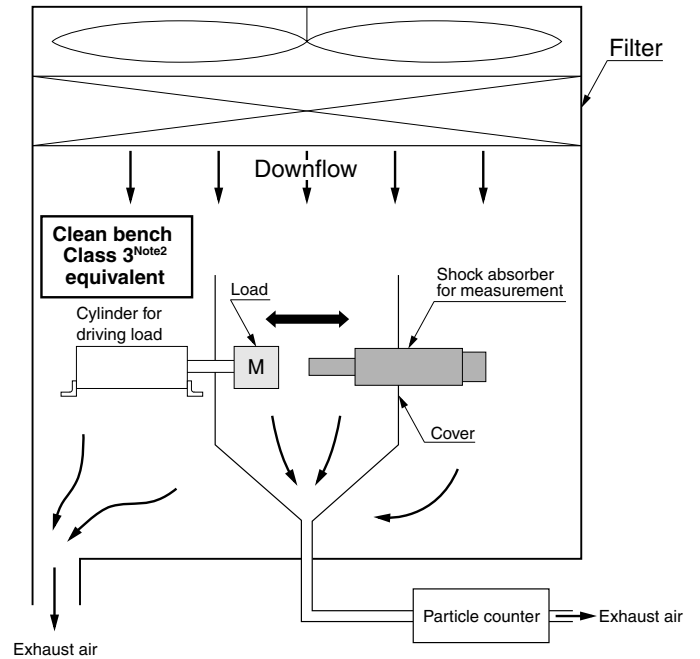

Figure 1
1. Measure particles in the clean bench (Figure 1) without activating the measurement use shock absorber and load driving cylinder in the clean bench (to measure the background valve).^{Note}